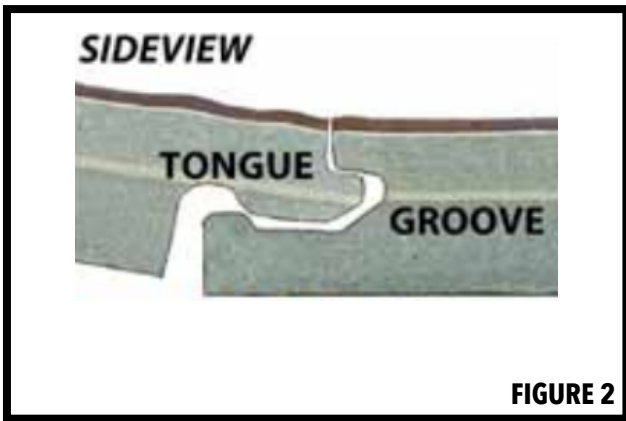

FIGURE 2
8. Install the second plank of the second row. Position the long side of the second plank with the tongue side of the existing plank overlapping the groove of the planks in the previous row approximately 1/8". Then, angle the end joint into the previous plank. Angle the plank down and gently push in until the plank locks into the previous row (Refer to Figure 2). Continue installing remaining planks in second row.